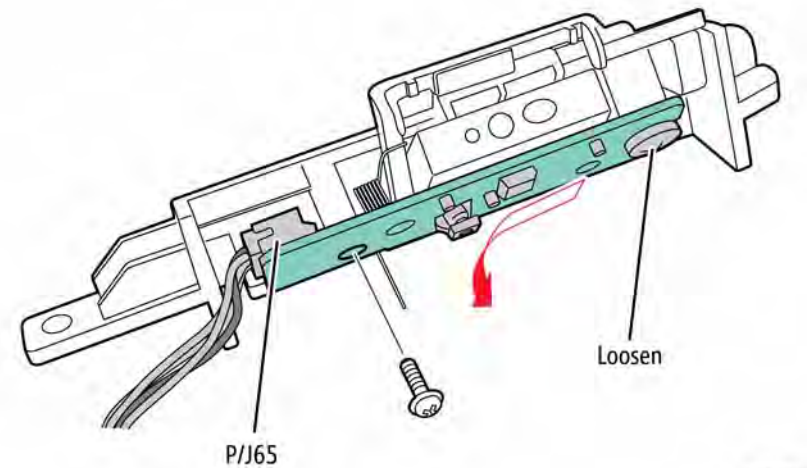

Figure 3 Remove the ADC Sensor from the holder
6. Remove 1 screw and loosen 1 screw, then disconnect P/J65 to remove the ADC Sensor from the holder, Figure 3.